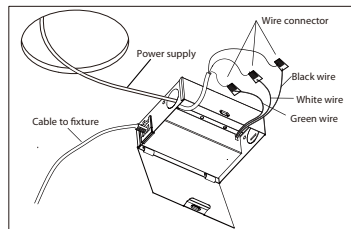

FIG. 3
2. Open the junction box swing cover and remove the appropriate knockout, insert a NM connector (for strain relief) in the knockout (not included). Insert the electrical supply cable through the connector/knock out. Use the wirenuts to connect the white wire from the supply wire with the white wire of the junction box. Match the black wire from the supply wire with the black wire of the junction box. Match the copper wire from the supply wire and with the green wire of the junction box. (Fig. 3)